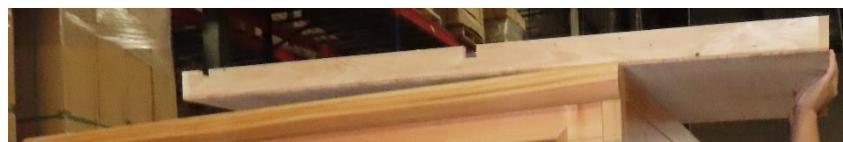

Figure 4
2. Next, carefully slide the ROOF PANEL into place. (see Figure 4)